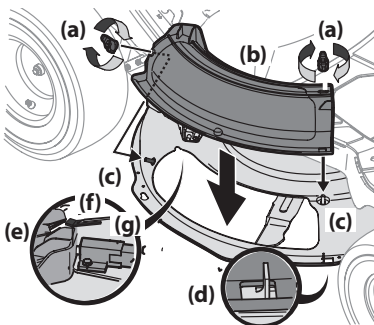

Figure 9
1. Remove the wing knobs (a) installed on the mowing deck and retain for later installation. See Figure 9.
2. Install the mulch plug (b) into the discharge opening on the deck. The rear of the mulch plug (b) should be under the tab (f) on the rear deck bracket (g). The studs (c) on the deck surface will fit through the holes on the upper portion of the mulch plug (b). The small tab (d) on the deck lip area will fit through the square cutout on the lower portion of the mulch plug (b). See Figure 9.
IMPORTANT! Make certain that the upper-rear portion of mulch plug (b) is depressing the safety switch (e) located on the deck surface and under the tab (f) on the rear deck bracket (g). The blade(s) will not start without the mulch plug (b) properly in place. See Figure 9.
3. Secure the mulch plug (b) by tightening the wing knobs (a) removed in Step 1. See Figure 9.